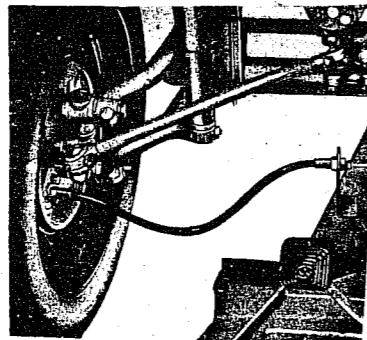

Fig. K.43. Correct installation of the front brake hose.
1. The hoses must be installed so that the tube bends towards the front of the car (Fig. K 43). Achieve this bending by twisting the hose about 90 degrees before you finally lock it in position.